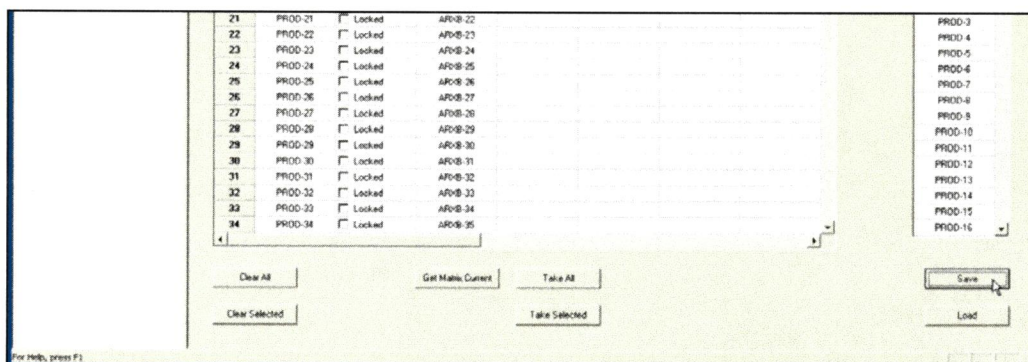

Figure 11. Save Preset Button
9. Once the window updates with the current matrix status, click the **Save** button as shown in Figure 11.